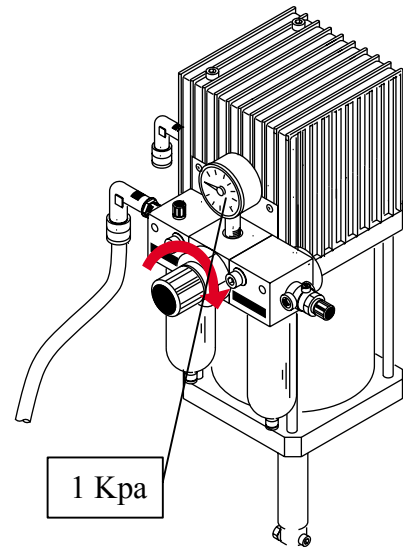

Fig.29
7) Rotate the pressure regulator ring nut in a clockwise direction until the pressure gauge reaches 1 Kpa (fig. 29). At this point the pump starts to operate and the air inside the circuit is eliminated from the discharge pipe.